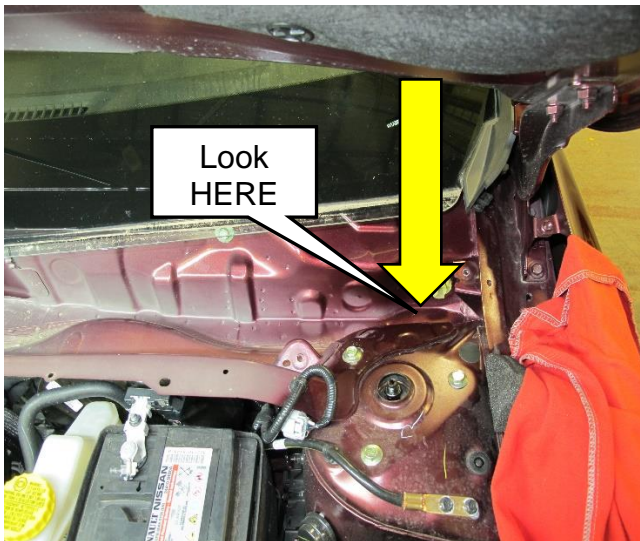

Figure 13
9. Locate the Driver's Side (Left Side) cowl joint seams to be resealed as shown in Figures 13 and 14.
- Figure 13 shows general area of driver's side strut/cowl area